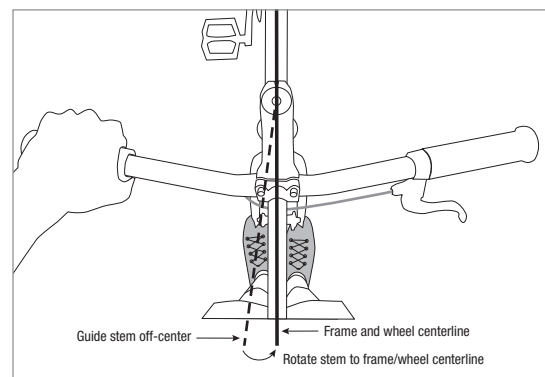

Figure 2
8. Align the stem with the frame/front wheel (Fig. 2). Once aligned, use a torque wrench and hex-bit socket to alternately tighten the two stem steerer binder bolts to the torque listed on the stem.